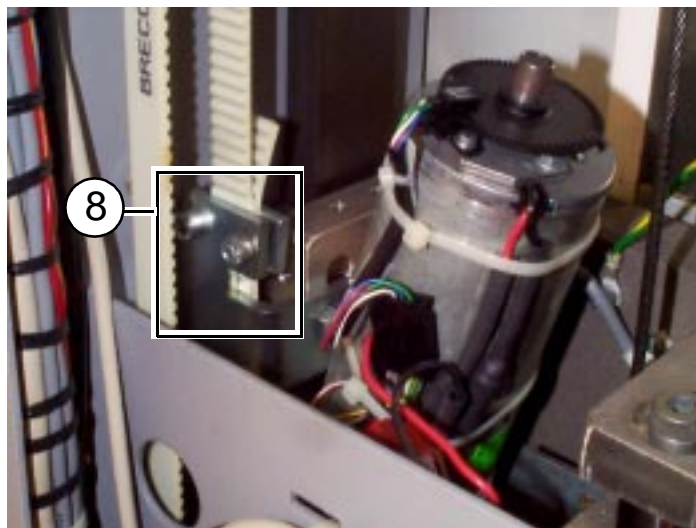

Fig. 7
3. Open the drive belt (see Fig. 7, pos.8).
5. Secure the new drive belt (see Fig. 7, pos.8)
8. If necessary, adjust the tension of the drive belt (see Fig. 7, pos.8).